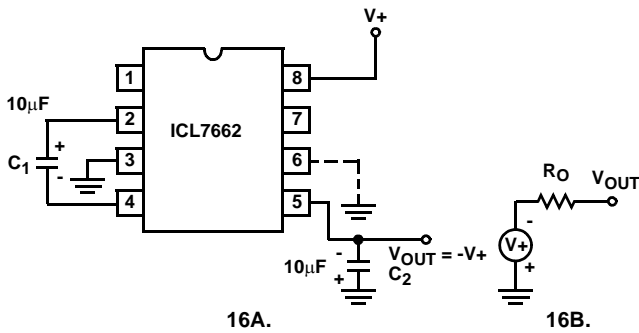

FIGURE 16. SIMPLE NEGATIVE CONVERTER AND ITS OUTPUT EQUIVALENT
The majority of applications will undoubtedly utilize the ICL7662 for generation of negative supply voltages. Figure 16 shows typical connections to provide a negative supply where a positive supply of +4.5V to 20.0V is available. Keep in mind that pin 6 (LV) is tied to the supply negative (GND) for supply voltages below 10V.
ESR also affects the ripple voltage seen at the output. The total ripple is determined by 2V, A and B, as shown in Figure 16. Segment A is the voltage drop across the ESR of C2 at the instant it goes from being charged by C1 (current flowing into C2) to being discharged through the load (current flowing out of C2). The magnitude of this current change is 2 × IOUT, hence the total drop is 2 × IOUT × ESR C2 V. Segment B is the voltage change across C2 during time t2, the half of the cycle when C2 supplies current the load. The drop at B is IOUT × t2/C2 V. The peak-to-peak ripple voltage is the sum of these voltage drops:
Figure 23 combines the functions shown in Figure 16 and Figure 22 to provide negative voltage conversion and positive voltage doubling simultaneously. This approach would be, for example, suitable for generating +9V and -5V from an existing +5V supply. In this instance capacitors C1 and C3 perform the pump and reservoir functions respectively for the generation of the negative voltage, while capacitors C2 and C4 are pump and reservoir respectively for the doubled positive voltage. There is a penalty in this configuration which combines both functions, however, in that the source impedances of the generated supplies will be somewhat higher due to the finite impedance of the common charge pump driver at pin 2 of the device.